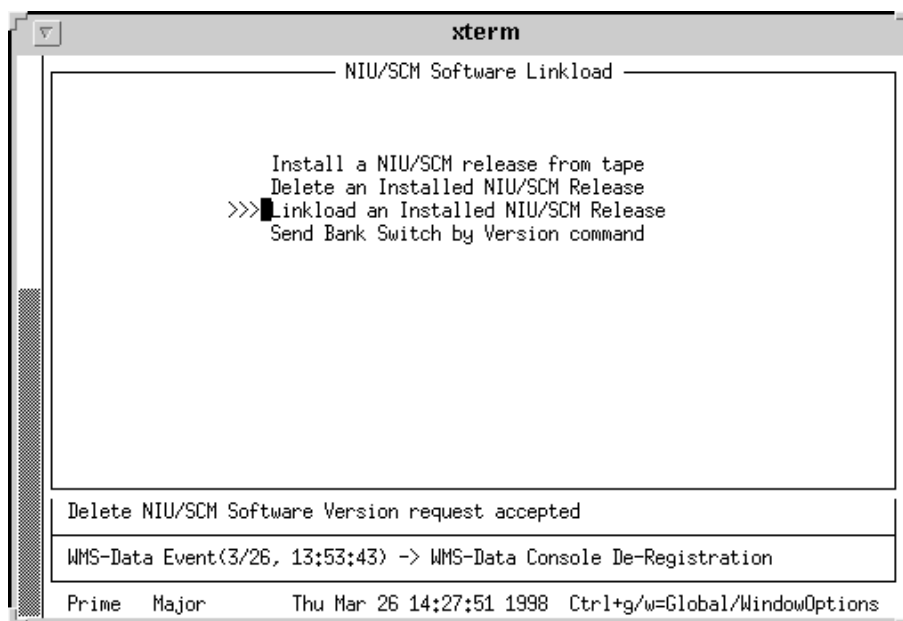

Figure 6-5: NIU/SCM Software Linkload Screen—Linkload an Installed NIU/SCM Release
1. From the NIU/SCM Software Linkload screen, use the <tab> to position the cursor to the left of the listing Linkload an Installed NIU/SCM Release and press: <Return> (see Figure 6-5).